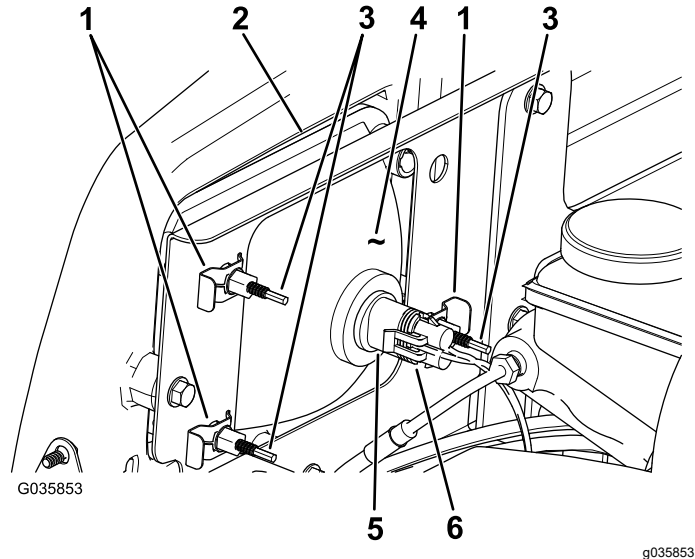

Figure 50
3. Disconnect the electrical connector for the harness from the connector of the lamp assembly (Figure 50).
4. Remove the speed clips that secure the headlight to the headlight bracket (Figure 50).
5. Remove the headlight assembly by moving it forward through the opening in the front bumper (Figure 50).
6. Install the new headlight through the opening in the bumper (Figure 50).
8. Connect the electrical connector for the harness to the connector of the lamp assembly (Figure 50).
2. At the back of the headlight assembly, rotate adjustment screws (Figure 50) to pivot the headlight assembly and align the position of the cast beam.